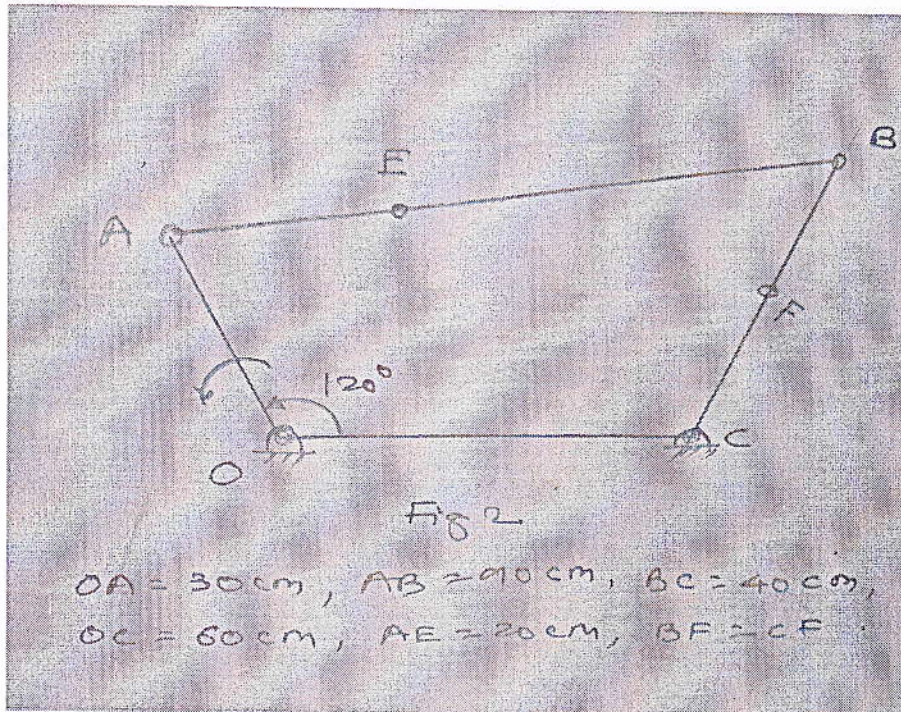

Fig.2
- Given angular velocity of link OB is 22 rad/sec CCW. Ref Fig. 2